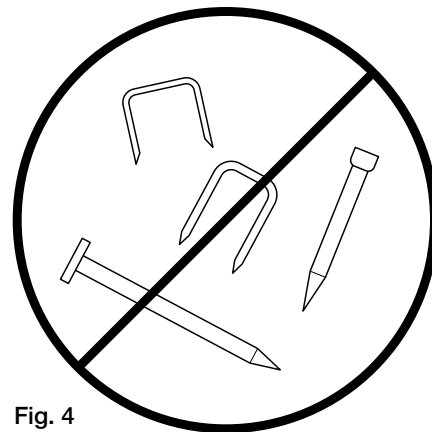

Fig. 4
**DO NOT USE STAPLES, WIRE NAILS, or BRADS** to fasten Klear products. Any fastener that can easily bend with bare hands will not provide adequate strength (**Fig. 4**).